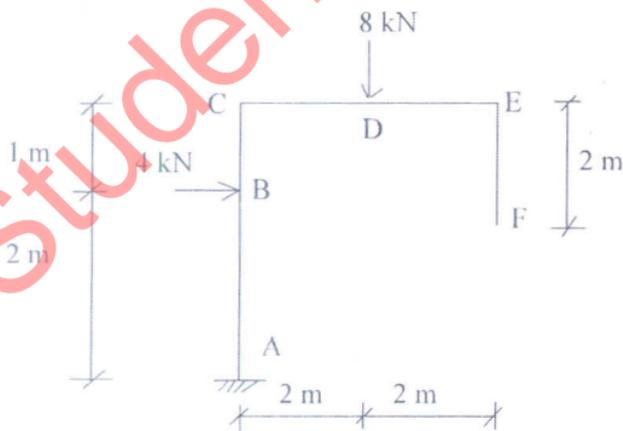

Fig. 3
- (a) Determine the horizontal and vertical deflection at point F in the frame shown in Fig. 3, using unit load method.